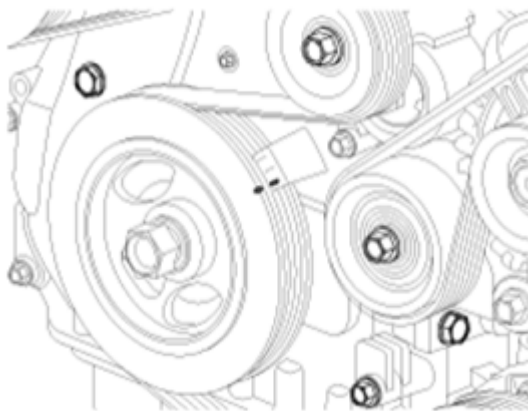

Fig. 8: Identifying Mark On Pulley
3. Remove the service hole bolt (A) of the timing chain cover. Refer to **Fig. 8**